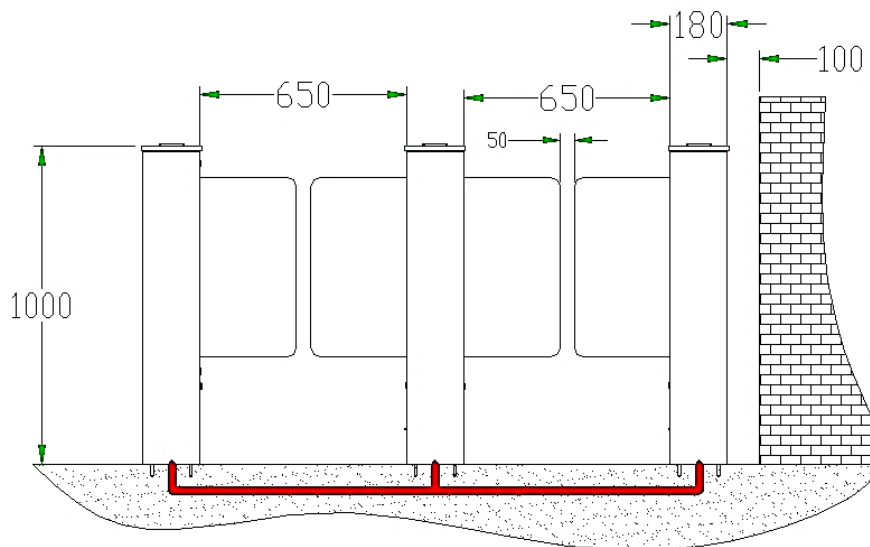

Figure 1-1
**SBTL5000** installation holes and cabling positions as shown in Figure 1-1: